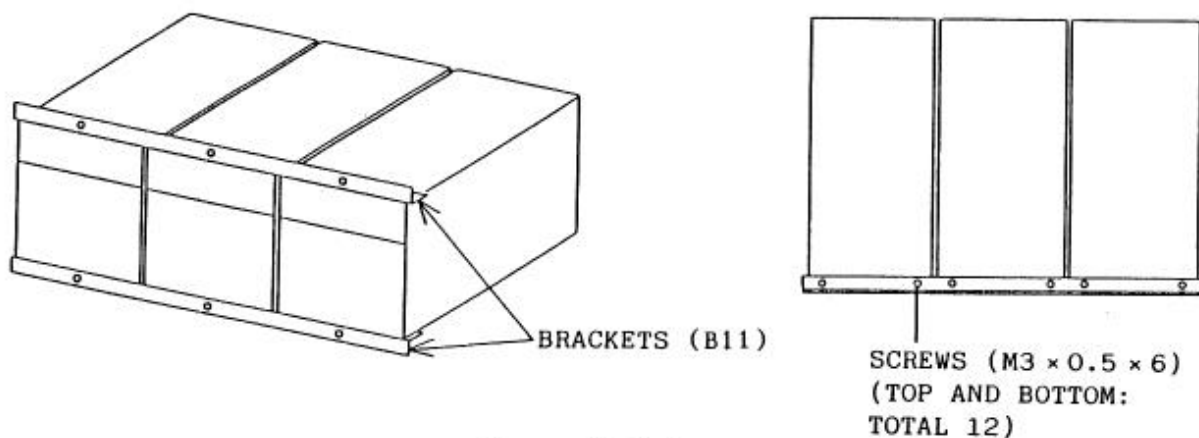

Figure 5.1.1
- a. Attach the brackets to the load(s). Up to 3 Loads can be mounted side by side with the brackets. See Figure 5.1.1.